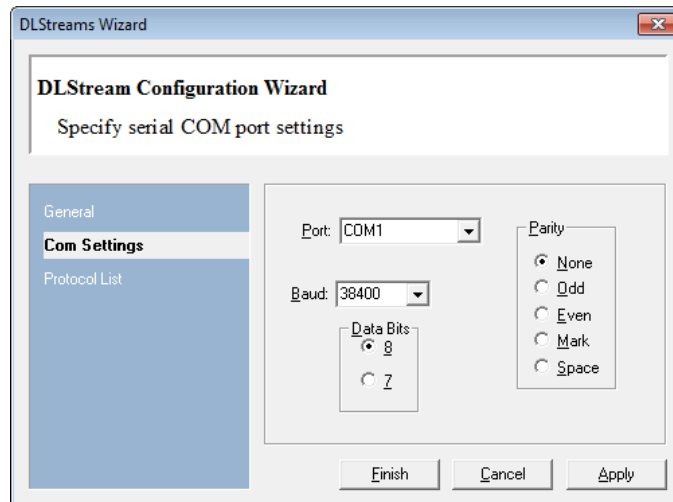

Figure 6: Com Settings
7. Click on the **Com Settings** tab (*Figure 6*). Select an available COM Port, set the *Baud* to 38400, and then click **Apply** followed by **Finish**.